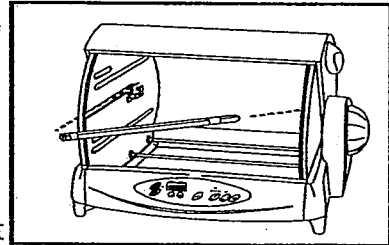

Figure 1
3. Angle the Rotisserie Bar so the **pointed end** fits into the center hole in the **right side** (when facing front of Rotisserie) of the Rotisserie Oven. See Figure 1.